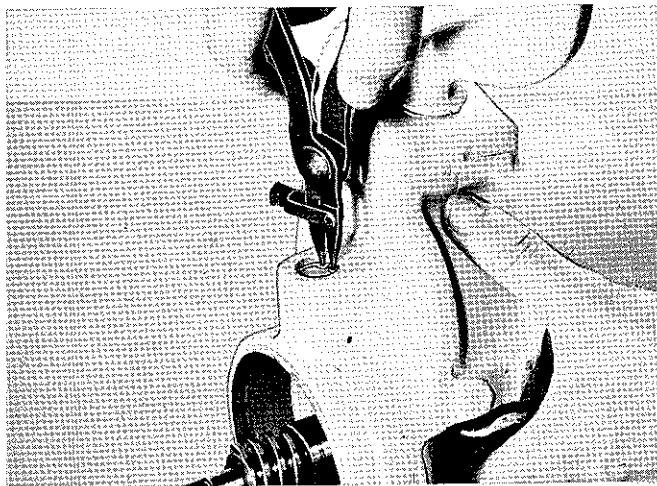

Figure 6-8. Removing Internal Retaining Ring from Brake Pawl Bore
h. Remove internal retaining ring from outside end of pawl bore, using Truarc pliers (size #1) as shown in Figure 6-8, and take out pawl spring disc. Also press out pawl sleeve.